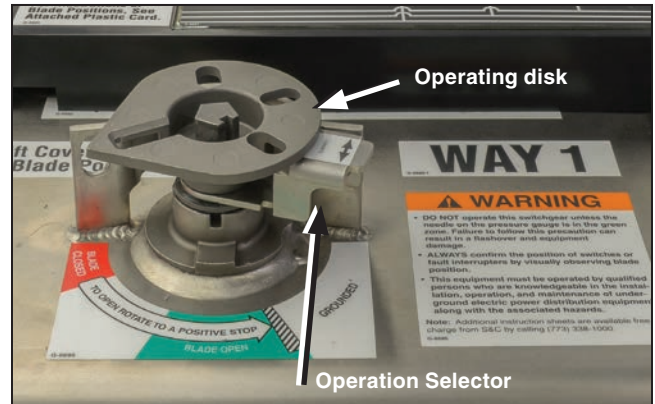

Figure 11. In the far right position, the OPERATION selector allows operation between the Closed and Open positions.
**STEP 3.** If the OPERATION selector is blocking the operation, rotate the selector out of the way. The OPERATION selector prevents inadvertent operation directly from the **Closed** position to the **Grounded** position, and vice versa. See Figures 11 through 13.